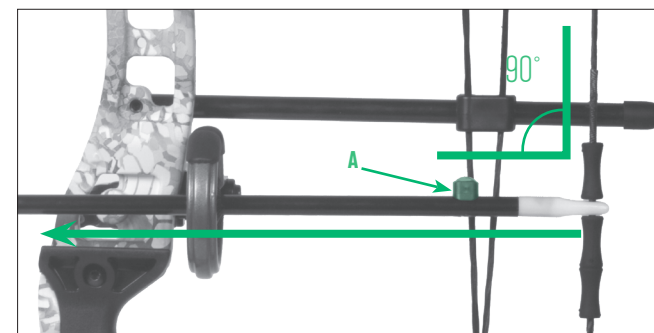

FIGURE 6
- Adjust the arrow rest so that the arrow when loaded is perpendicular (90°) to the string and the arrow is level with the Berger Button hole (the hole that the arrow rest mounts to). (Fig. 6)